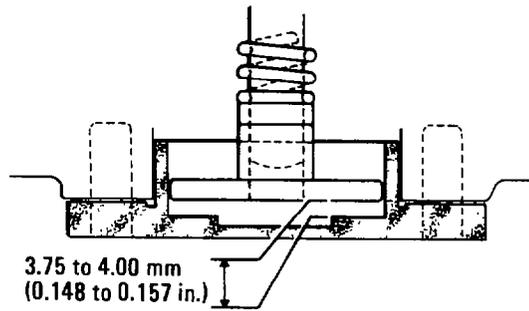

Fig. 132 — Checking Governor Inner Spring Clearance
- p. Install a new gasket on the governor mounting surface, then fasten the governor to the injection pump, engaging the pin (item 64) into the control rack of the injection pump. Check that the pin (item 64) is properly engaged with the control rack.
- q. Install the inner governor spring (item 77), shims (item 75) and spring seat (item 74). Place a spring gap gauge TSE 7998 over the spring compartment and check that the spring gap is between 3.75 to 4.00 mm (0.148 to 0.157 in.) see fig. 132. If the gap is not correct, replace the shims with thicker or thinner shims to obtain the correct gap.